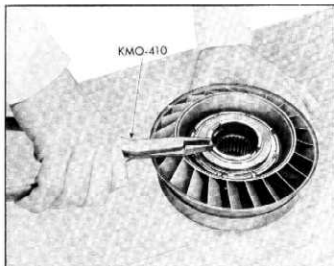

Fig. 83—Removing Stator Race Thrust Snap Ring
- Remove stator race thrust snap ring and thrust washer (fig. 83).